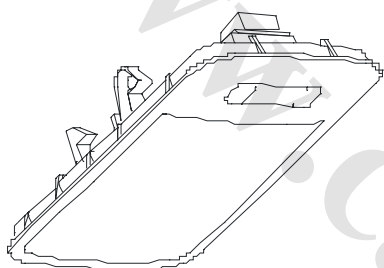
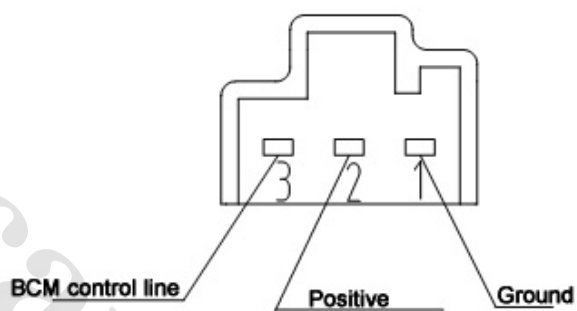

Fig. 4-70
Fig. 4-71
6. Rear roof light (Fig. 4-70 and Fig. 4-71)